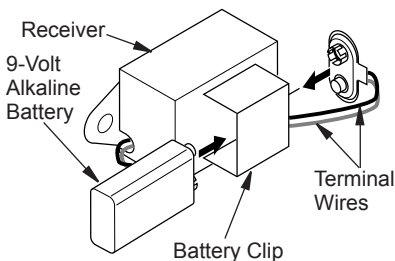

Figure 15 - Attaching Alkaline Battery to Receiver
3. Attach terminal wires to battery (see Figure 15).